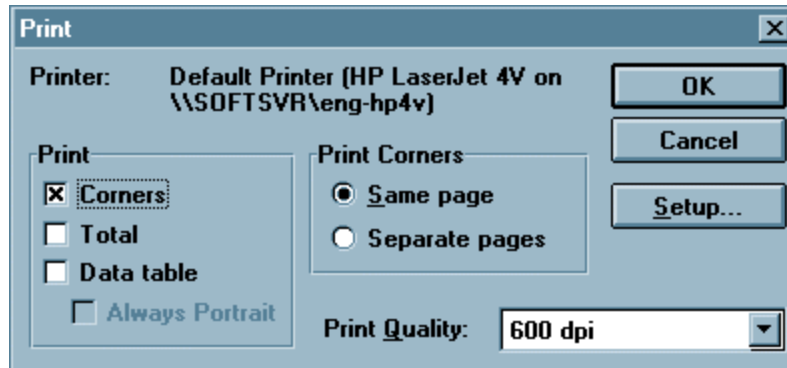

Figure 10: Print Window
2. You may choose to print the Corners, Total or Data Table and may print corner on the same or different pages. (See Fig. 10).